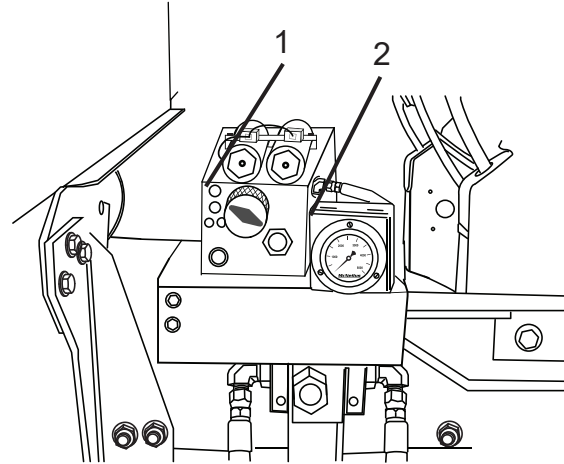

Figure 94
4. Once the pressure requirements have been determined, use the PRV knob (Figure 94, Item 1) to adjust the pressure to the required pressure. Pressure will be displayed on the gauge (Figure 94, Item 2).